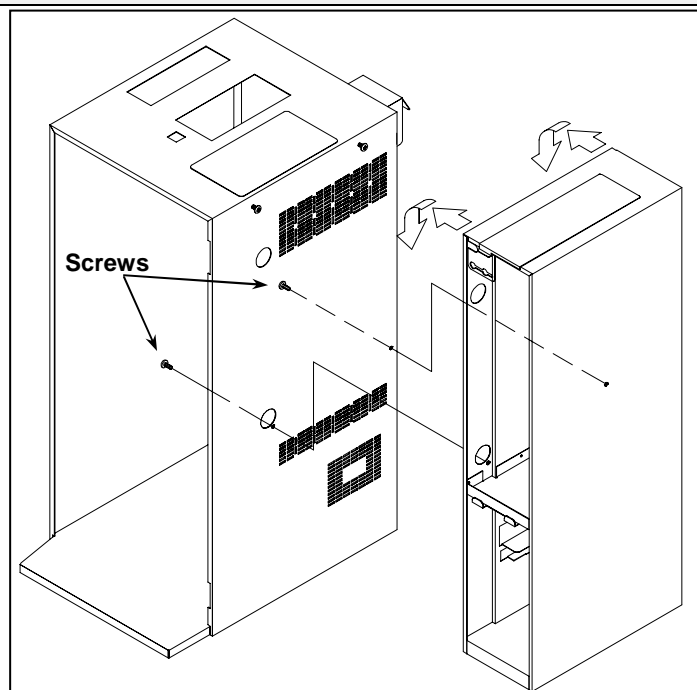

Figure 2 - Mount the unit to the side of machine, then secure it in place with the screws.
2. Mount the A.P.P. unit onto these screws the same way you would mount a condiment bin or cup holder to the machine (*figure 2*).
3. From the inside of the machine, pass two 8-32 screws (*identified in figure 2*) through the side wall (where the two smaller holes have been punched), and into the clinch nuts on the A.P.P. This will help secure the assembly in place.